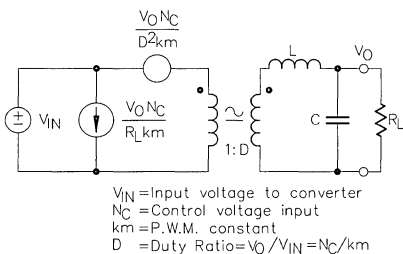

Figure 6. Linear Equivalent Circuit
In experimentally attempting to confirm satisfactory operation of the output stages, the designer hopes to prove that a linear equivalent circuit model is valid for reasonable analysis. One such model as proposed by Middlebrook(5) is shown in Figure 6. This model describes the overall AC and DC transfer function and input and output impedances in terms of the duty cycle and modulation constant. This model assumes that the effects of operating frequency, switching delays, and parasitic elements are well above the frequencies of interest as defined by the output LC filter.